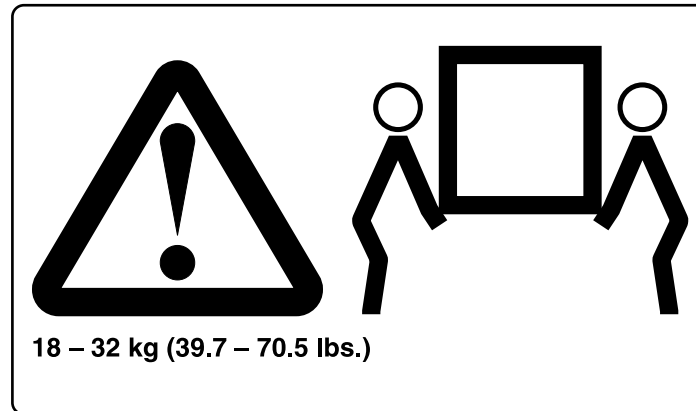

Figure 12. Two-man lift label on battery unit
1. Two-man lift label. See Figure 12.